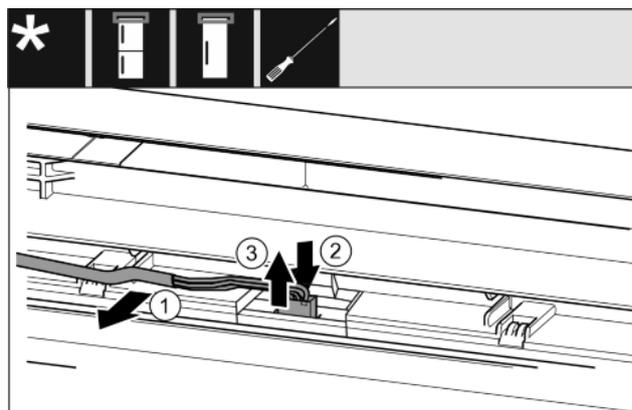

Fig. 16
- ▶ Carefully release the grey cable from the guide in the door. Fig. 16 (1)
- ▶ Push the lug behind the plug back carefully. Fig. 16 (2)
- ▶ Pull out the plug carefully upwards. Fig. 16 (3)